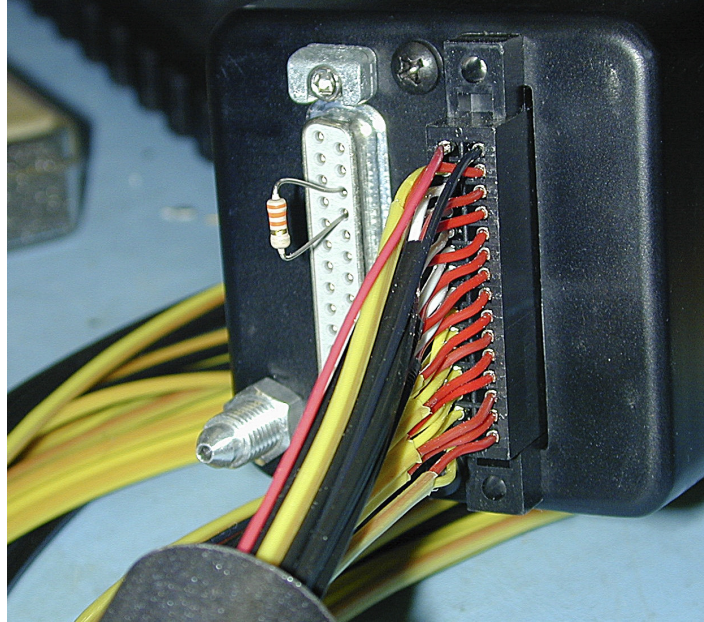

Figure 2 - Test Resistor inserted into P2 sockets #16 and #17.
5. Locate the #16 and #17 pin sockets on the P2 connector (use a flashlight and magnifier to positively identify the correct pins). Inserting the resistor leads into the wrong pin sockets may result in permanent damage to the GEM. Bend the leads of the resistor and insert them into the # 16 and # 17 sockets as shown in Figure 2.